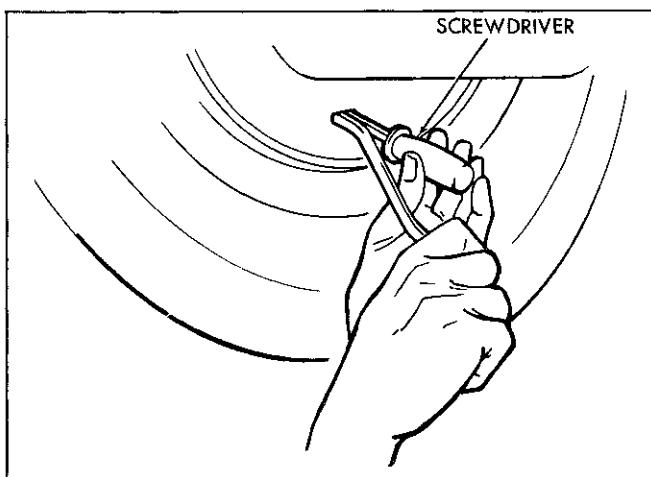

Fig. 5-4 Preparing to Back Off Adjusting Screw
5. Hold automatic adjuster actuator arm away from adjusting screw with screw driver or probe and back-off one turn (Pontiac - 30 notches, Tempest and Firebird, 26 notches of adjusting screw star wheel). (Fig. 5-4 and 5-5).
screw slot in the backing plate and hold automatic adjuster lever away from adjusting screw star wheel and rotate adjusting screw upward (Figs. 5-4 and 5-5).